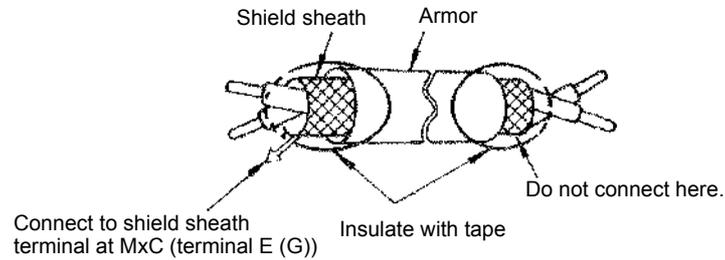

Fig 2.21 Processing the Ends of Shielded Twisted-Pair Cables
- Use shielded twisted-pair cables for control circuits to prevent operating faults. Process cable ends as shown in *Fig 2.21*.
- Connect the shield wire to terminal E (G).